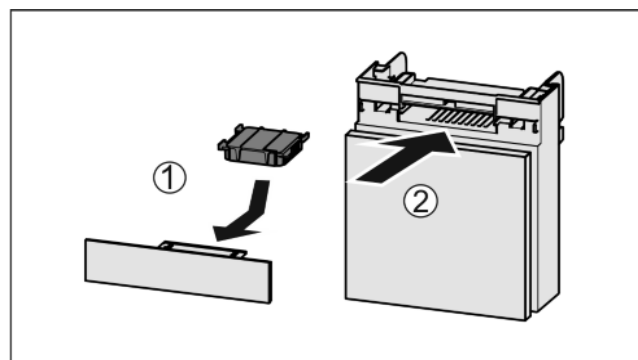

Fig. 54
- ▶ Insert the carbon filter as shown in the diagram Fig. 54 (1).
- ▶ Push the compartment in Fig. 54 (2).